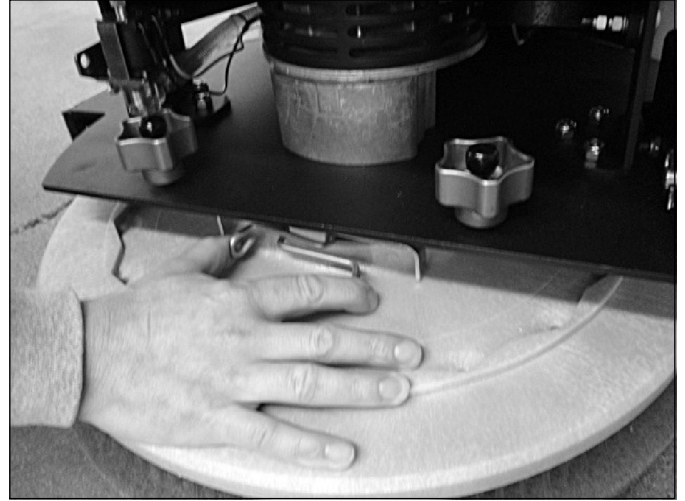

FIGURE 11.
6. ATTACH BRUSHES OR PADS TO MOTOR HUBS. SQUEEZE THE SCISSOR LOCKING DEVICE AND LIFT BRUSH UP ON TO THE MOTOR DRIVE HUB. MAKE SURE THE SCISSORS CLOSE AND LOCK ONCE THE BRUSHES ARE ON. (SEE FIGURE 11.)